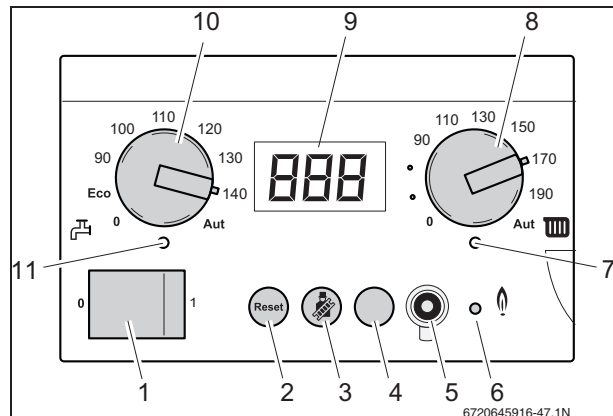

Fig. 50 BC10 basic controller
- Turn the Space heating water temperature knob (fig. 50, [8]) and DHW temperature knob (fig. 50, [10]) counterclockwise to the "0" position.